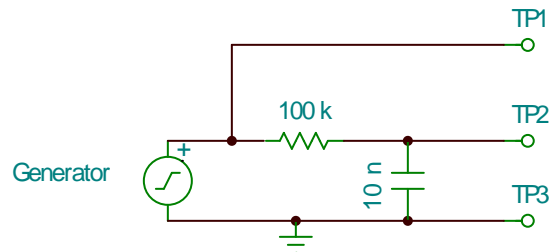
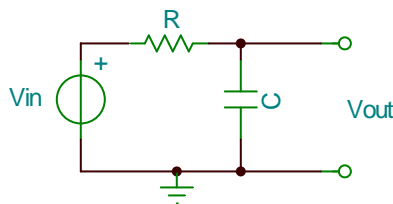

Figure 1. Phase Shifting Network
Figure 3. Low Pass Filter
- **Use two channels of the scope to measure phase shifts.** You can use a phase shifting network as shown in Figure 1 to shift the phase of an output signal. Practice measuring phase shifts between the two signals by using two channels on the oscilloscope. It is usually easiest to compare the phase by looking at the two signals where they cross zero, rather than trying to identify the shift in their maxima. Note that the *sign* of the phase angle is important. If we have an input signal $\cos(\omega t)$, the shifted signal is at $\cos(\omega t + \phi)$. So a signal with a *positive* phase shift occurs at a slightly *earlier* time than one with no phase shift and shows up farther to the left on the oscilloscope. This is sometimes called a “leading” phase shift. A waveform that has a negative phase shift
A resistor placed in series with a capacitor as shown in Figure 3 is a simple low-pass filter. The phase shifter circuit in Figure 1 is also a low pass filter. Low pass filters are often used to remove high-frequency noise in electrical measurements. The input is applied to the circuit and the response is monitored across the capacitor. For low-frequency input signals the output will be close in magnitude and phase to the input signal; for high-frequency signals the output will be attenuated and shifted in phase. For a complex input signal, the low-frequency signals are "passed" through, while the high-frequency components are attenuated.